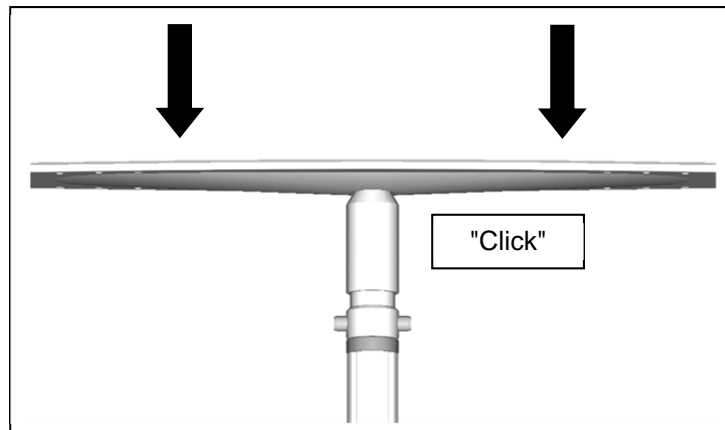

Figure 14
6. Place the top plate into the top of the post, press firmly and evenly downward until the top plate "clicks" into place (see Figure 14).